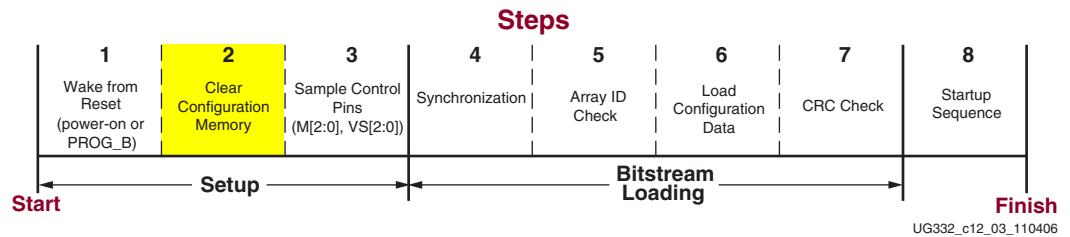

Figure 12-5: Clear Configuration Memory (Initialization)
2. Hold the **INIT\_B** pin Low during initialization, which stalls the configuration process in Step 2 shown in Figure 12-5, page 233. However, after the FPGA releases **INIT\_B** High, the application cannot subsequently delay configuration by pulling **INIT\_B** Low.